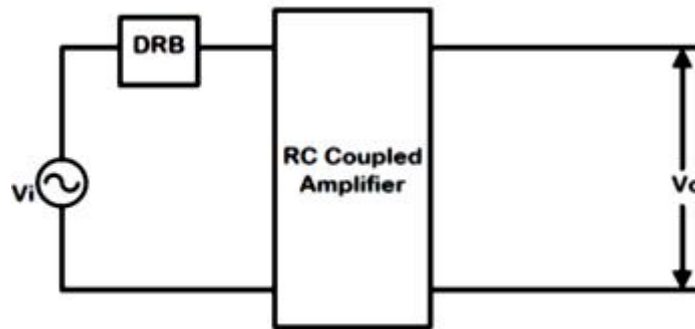

Fig. 3.4. Measurement of input resistance
- 1) Keep the DRB at minimum position and connect it in series with the input as shown in Fig. 3.4.